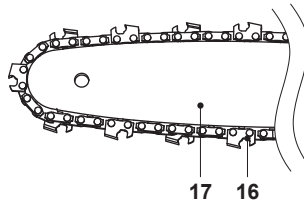

Fig. 7
3. Adjust the tension if you find that the saw chain (16) is too loose or tight.
4. Loosen the locking knob (10) slightly and allow the automatic chain tensioning device to tension the saw chain (16) until the chain 'tie straps' are just touching the bottom edge of the guide bar (17) (Fig. 7).